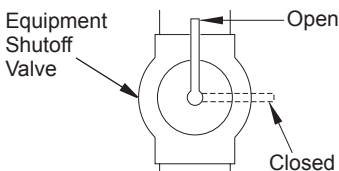

Figure 15 - Equipment Shutoff Valve
1. Close equipment shutoff valve (see Figure 15).
1. Open equipment shutoff valve (see Figure 15).
3. Close equipment shutoff valve (see Figure 15, page 15).